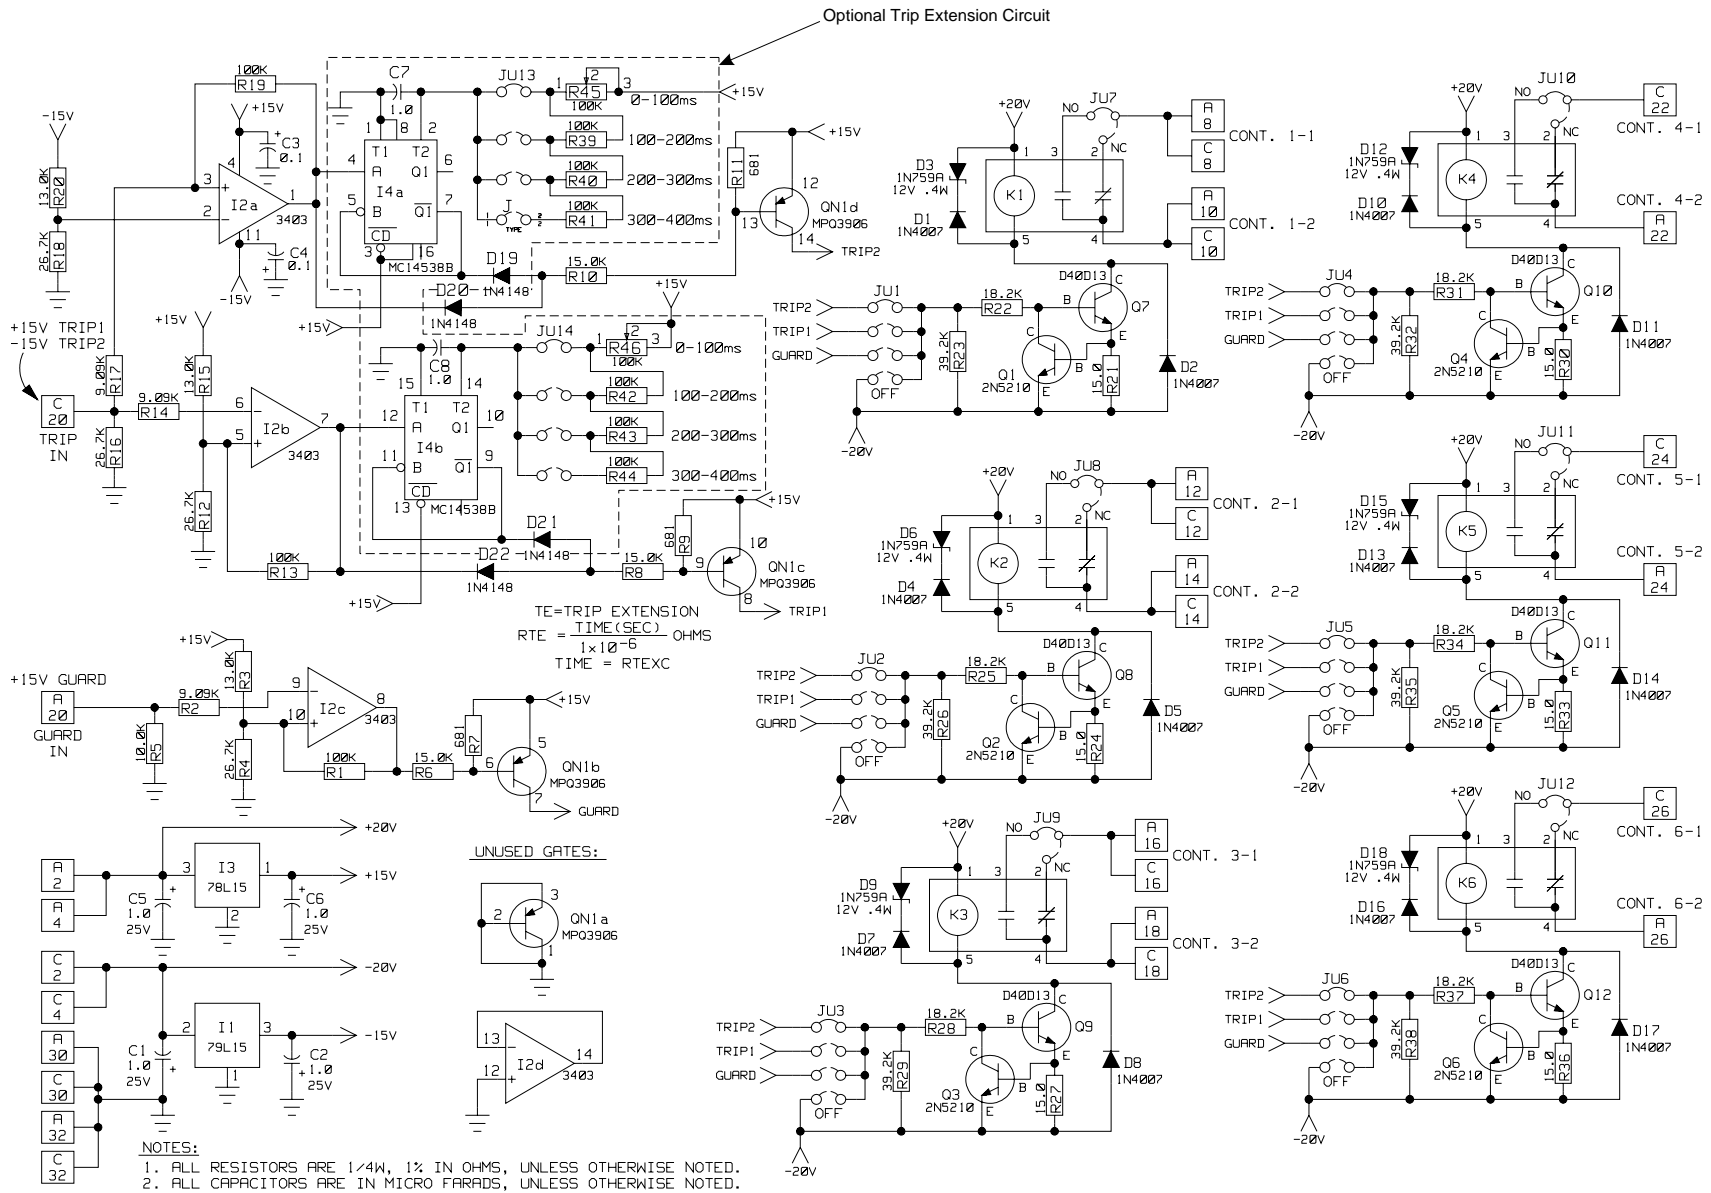

Figure 17-2. TCF-10B EM Output Schematic (1606C53).
The EM Output Module provides six (6) relay contacts for trip or guard output (see Figure 17-2). The contacts are rated to make and carry 30 A for 100 ms at 250 Vdc. Continuous switching of 125 Vdc at 0.5 A or 250 Vdc at 0.25 A is provided.